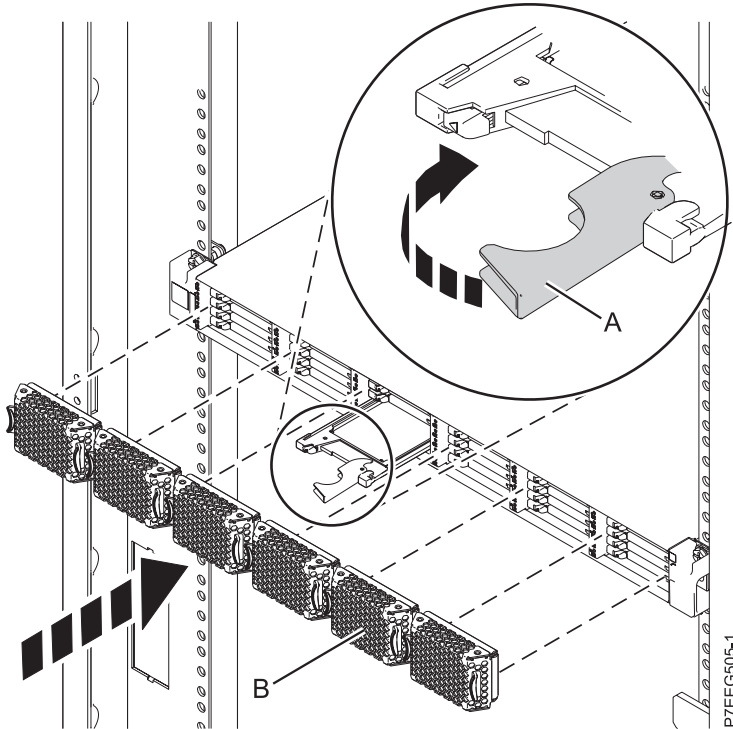

Figure 50. Replacing a solid-state drive in the EDR1 PCIe storage enclosure.
4. When the solid-state drive identify LED turns on solid, slide the solid-state drive all the way into the EDR1 PCIe storage enclosure until it is fully seated. Then rotate the handle (A) to the locked position. See Figure 50 on page 76.
6. Install the bezel (B).